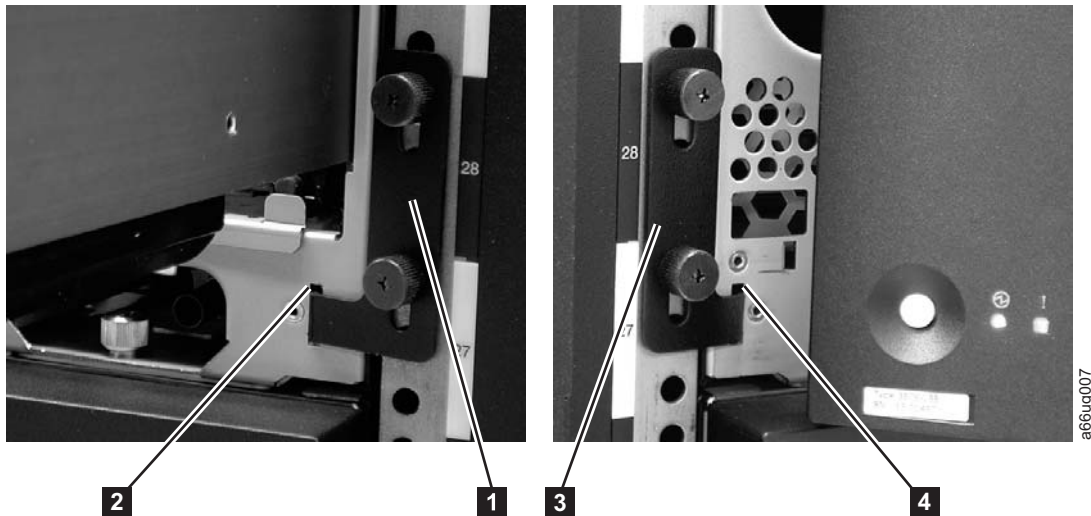

Figure 8-9. Removing the rack ears (Control Module shown)
2. Remove the right rack ear (**1** in Figure 8-9 on page 8-14).
3. Remove the left rack ear (**3** in Figure 8-9).
2. Replace the right rack ear (**1** in Figure 8-9).
- a. At the bottom right of the I/O Station position on each library unit, there is a slot (**2** in Figure 8-9). Insert the right rack ear into the slot.
3. Replace the left rack ear (**3** in Figure 8-9).
- b. Insert the left rack ear into the slot (**4** in Figure 8-9).